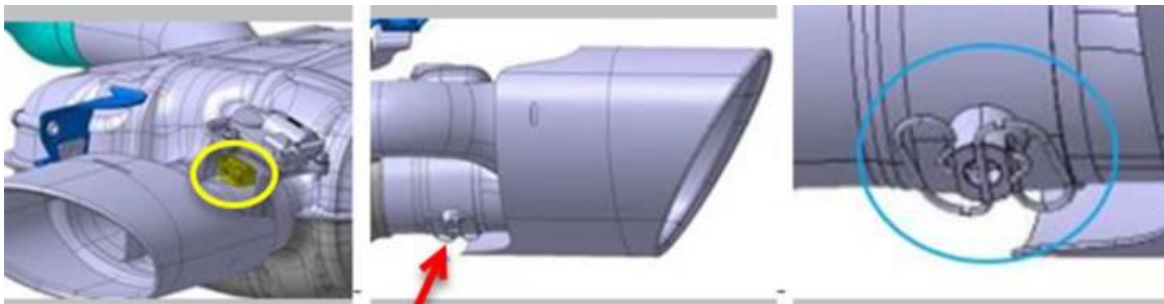

Figure 3. The optimized version of the rear silencer.
- B. Optimized version (Figure 3): claw coupling (marked yellow) with spring lock (blue). Check which version of the control motor is fitted: If the control motor fitted is not the new version (part number 8S0 133 246 D), replace it individually on the exhaust flap with the concern.